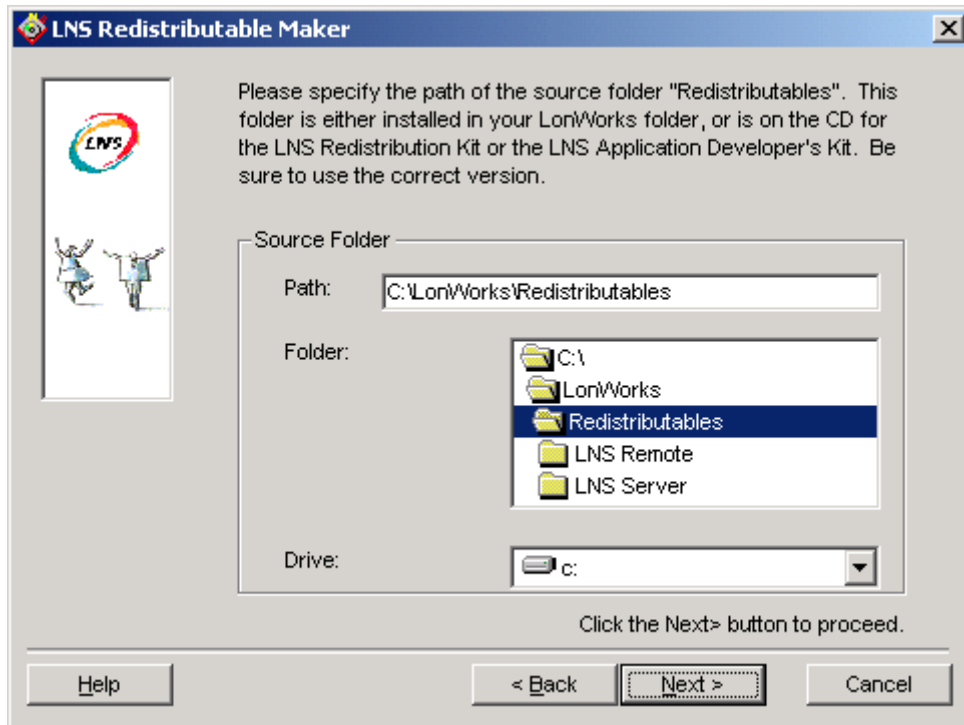
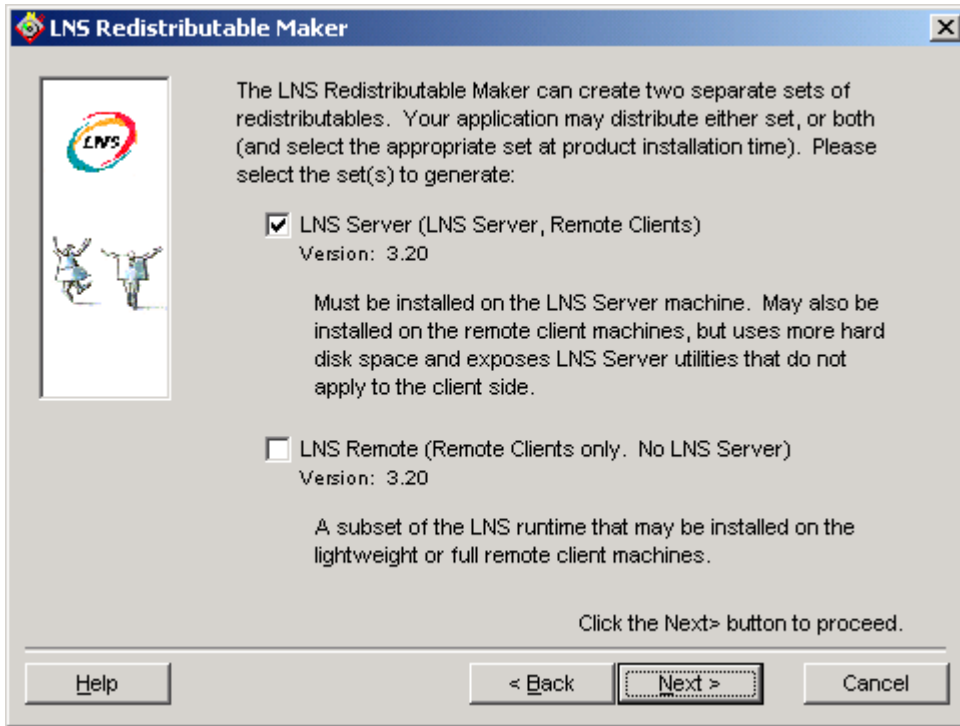

Figure 14.2 Redistributable Source Path Selection Dialog
Figure 14.3 Redistributable Selection Dialog
1. Click **Next** to begin using the utility. This opens the dialog shown in Figure 14.2.
2. Figure 14.2 illustrates the redistributable source path selection window. Select the path of the source redistributables folder, and click **Next** to continue. This opens the dialog shown in Figure 14.3.
3. Figure 14.3 illustrates the redistributable selection window. Select **LNS Server** or **LNS Remote**, depending on whether your application will operate locally or exclusively remotely. If you select the **LNS Remote** option, your application must set the `RemoteFlag` property to `True` before opening the LNS Object Server, as described in Chapter 4 of this document. If you select **LNS Server**, your application can operate locally or remotely (meaning the `RemoteFlag` property can be set to `True` or `False`).